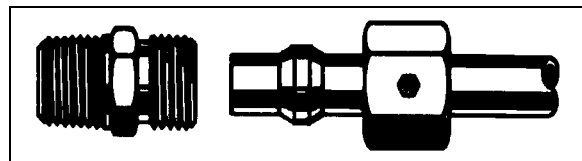

FIGURE 36: HOSE FITTING
**Compression:** Tighten nut by hand (Fig. 36). From that point, tighten using a wrench the number of turns indicated in the chart hereafter.